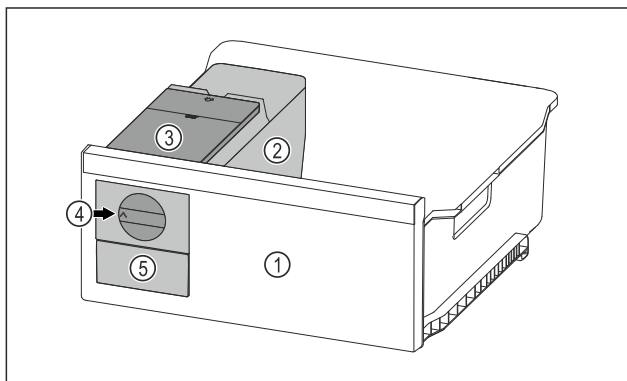

Fig. 120 Example illustration
▶ Turn the rotary knob Fig. 120 (4) clockwise as far as it will go.
▷ Ice cubes fall from the ice cube tray into the ice cube drawer Fig. 120 (5).